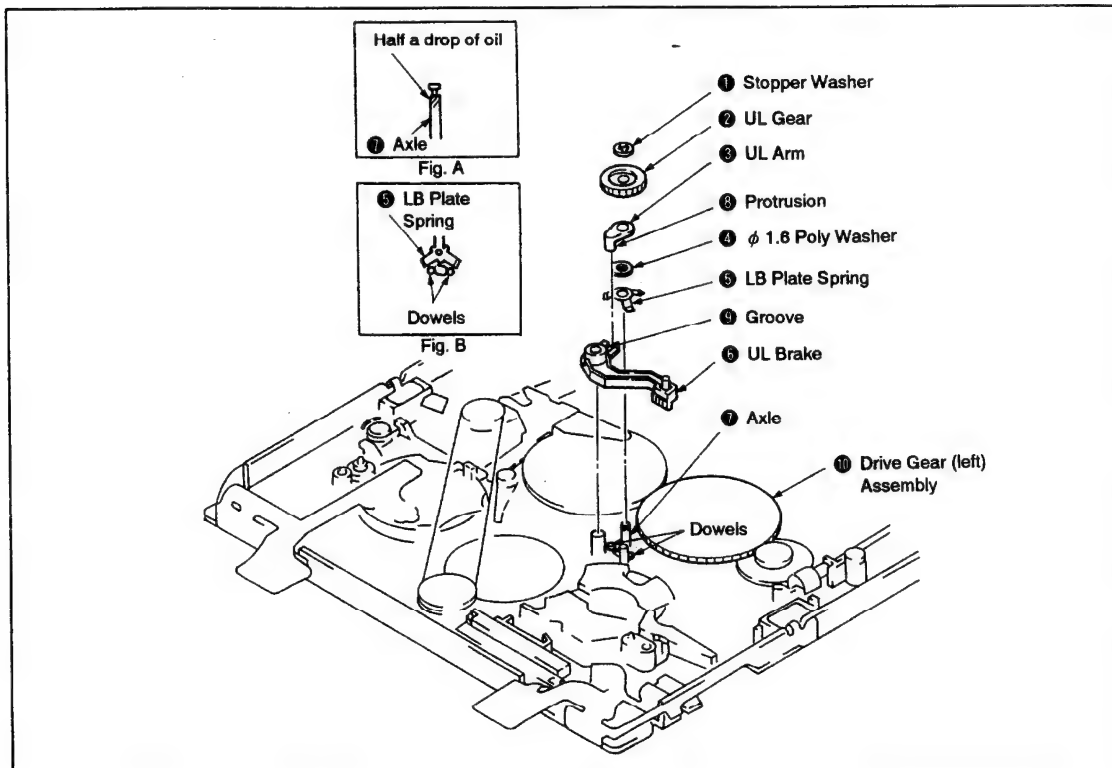

Fig. 3-18.
1. Removal (See Fig. 3-18.)
2. Installation (See Fig. 3-18.)